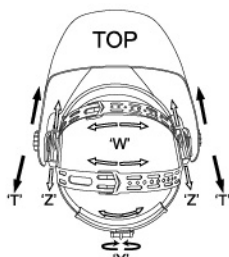

fig.2
The overall circumference of the headgear can be made larger or smaller by rotating the knob on the back of the headgear. (See adjustment "Y" in fig.2). This can be done while wearing the helmet and allows just the right tension to be set to keep the helmet firmly on the head without it being too tight.
- If the headgear is riding too high or too low on your head, adjust the strap which passes over the top of your head. To do this release the end of the band by pushing the locking pin out of the hole in the band. Slide the two portions of the band to a greater or lesser width as required and push the locking pin through the nearest hole. (See adjustment "W" in fig.2).
Step 1: Undo the block nut (See "T" in fig.2) to adjust the distance between the helmet and your face in the down position.
Step 2: Loosen the block nut on either side of the helmet and slide it nearer or further from your face. (See adjustment "Z" in fig.2). It is important that your eyes are each the same distance from the lens. Otherwise the darkening effect may appear uneven.